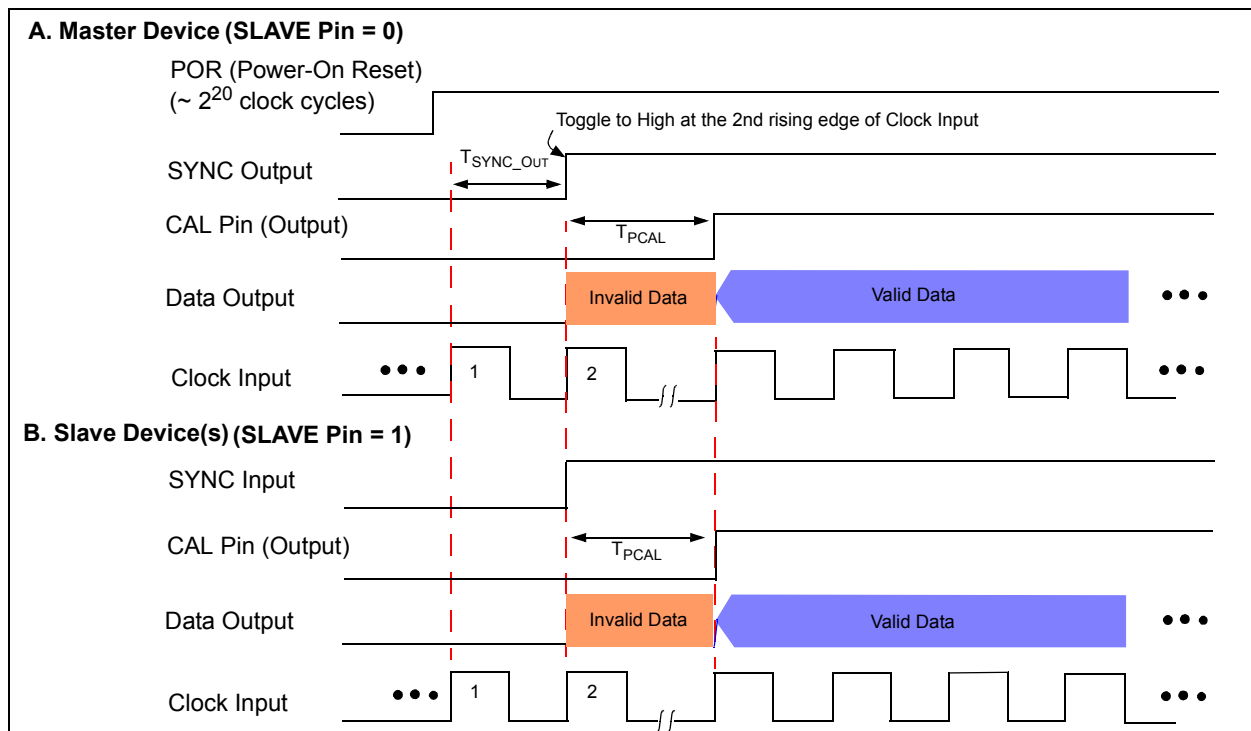
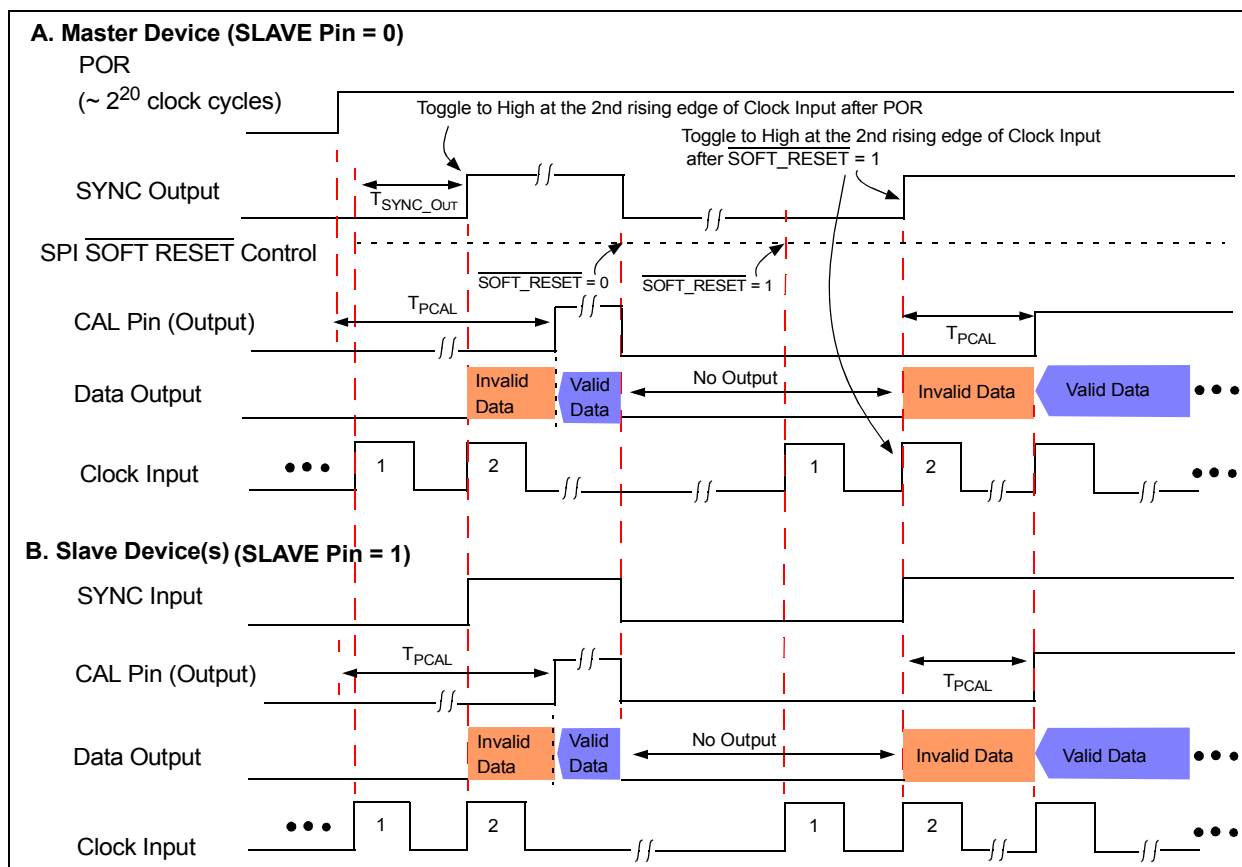

FIGURE 2-9: Sync Timing Diagram with Power-On Reset.
FIGURE 2-11: Sync Timing Diagram with $\overline{\text{SOFT_RESET}}$ Bit Setting.
- Note 6:** Characterized with a single slave device. The maximum ADC sample rate for AutoSync mode may be reduced if multiple slave devices are used. See Figure 2-9 - Figure 2-11, and Figure 4-27 for details.